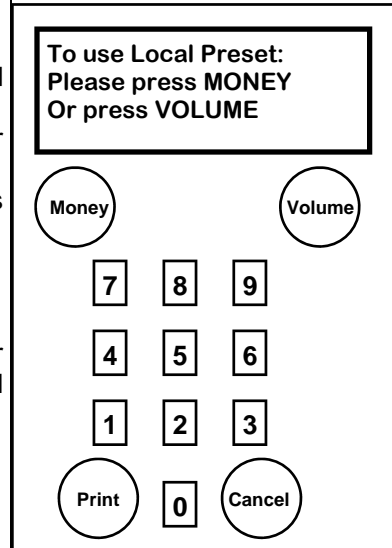

Figure 2
1. The idle mode on the display appears similar to Figure 2.